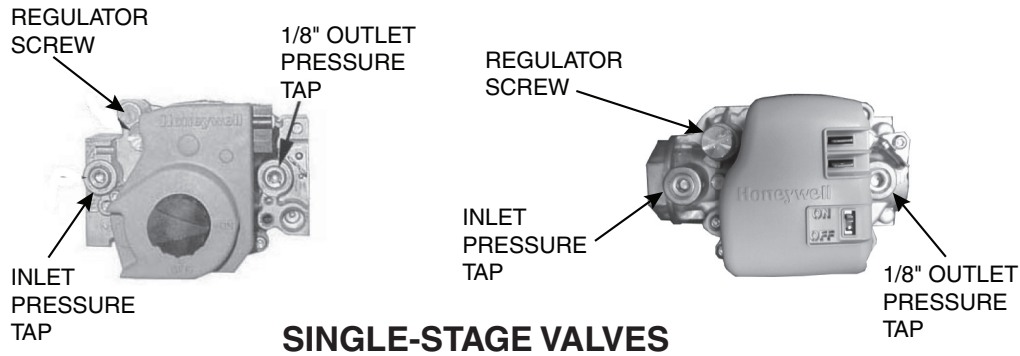

Figure 11. Gas Valves
2. Connect manometer to 1/8-inch output pressure tap on valve (see Figure 11).
- If manometer reading does not indicate that valve outlet pressure is in accordance with Table 15, remove cap from regulator screw(s) (see Figure 11) and adjust pressure by turning regulator screw IN (clockwise) to increase pressure or OUT (counterclockwise) to decrease pressure.
4. Connect manometer to 1/8-inch output pressure tap on valve (see **Figure 11**).
6. Remove cap from regulator screw (see **Figure 11**) and adjust pressure in accordance with **Table 15** by turning regulator screw IN (clockwise) to increase pressure or OUT (counterclockwise) to decrease pressure.
10. Connect manometer to inlet pressure tap (see **Figure 11**). While heater is operating, measure inlet pressure, which should be between 5 and 13.5 IN WC for natural gas or between 11 and 13.5 IN WC for propane.